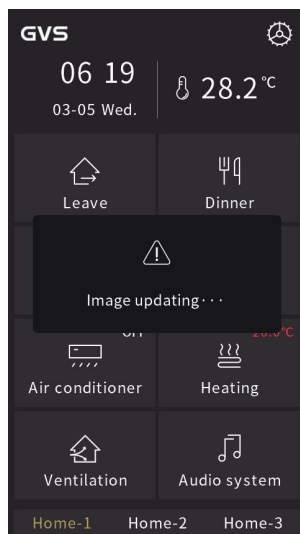
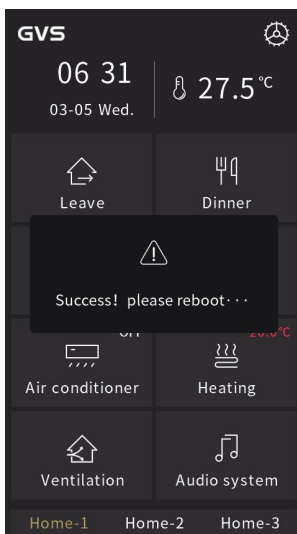
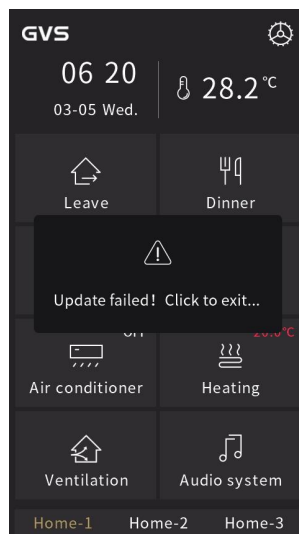
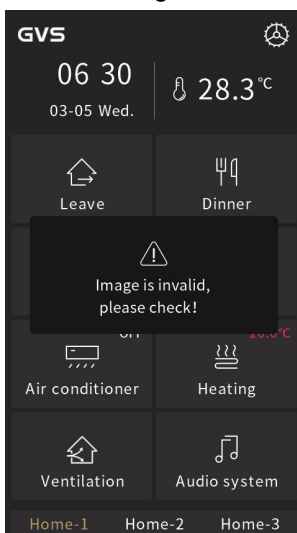

Fig.5.2
Fig.5.3
Fig.5.4
Fig.5.5
② Update pictures: when there is a folder named "Pageicon" in the Micro SD card, and there is a picture in accordance with valid name and format, then it will update and store (even if the picture is the same as the last saved).
3. Click "Confirm" to update picture; after upgrade, there will pop up a window of the result, if upgrade is successful, reboot the device manually to apply the new page icons to the system; if upgrade is failed, click any area outside the window to return to the page, as shown in Fig.5.2, Fig.5.3, Fig.5.4 and Fig.5.5.
**Note: when upgrading, if the single picture is larger than the remaining storage space of the device (the total size of the device picture storage disc is about 15 MB), the remaining valid pictures shall be stopped updating, upgrade is failed as shown as Fig.5.4.**